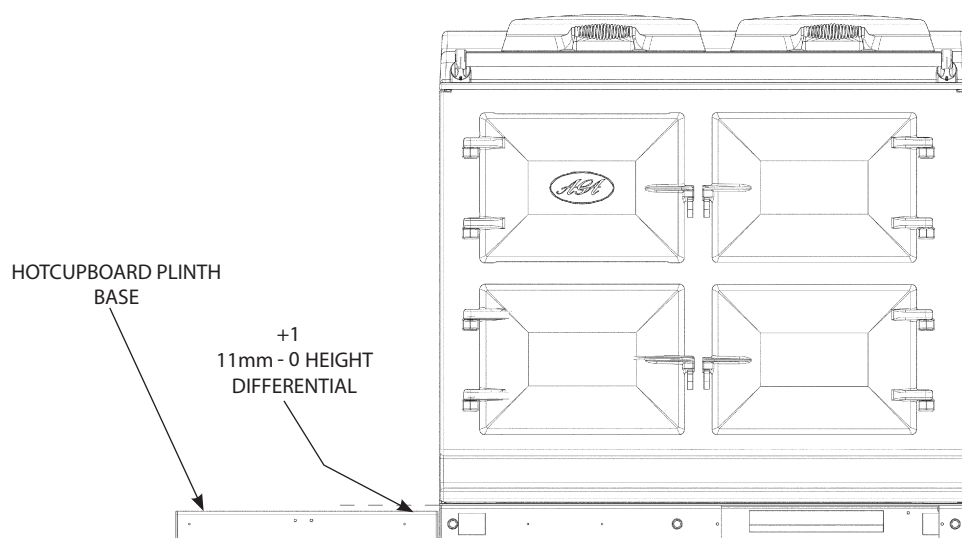

Fig. 12.3
2. Position the plinth alongside the AGA R7 leaving no gap between the two plinths (**Fig. 12.3**).